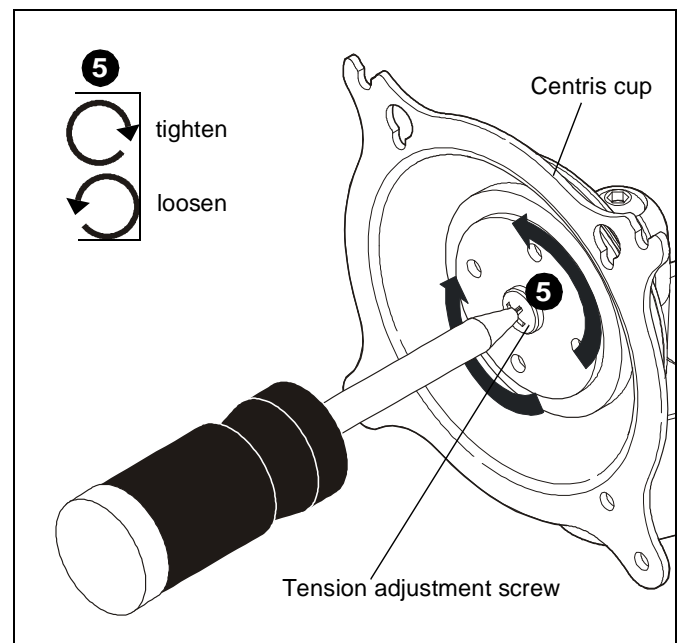

Figure 6
5. Using a Phillips screwdriver turn the tension adjustment screw clockwise to increase tension, or counter-clockwise to decrease tension. (See Figure 6)